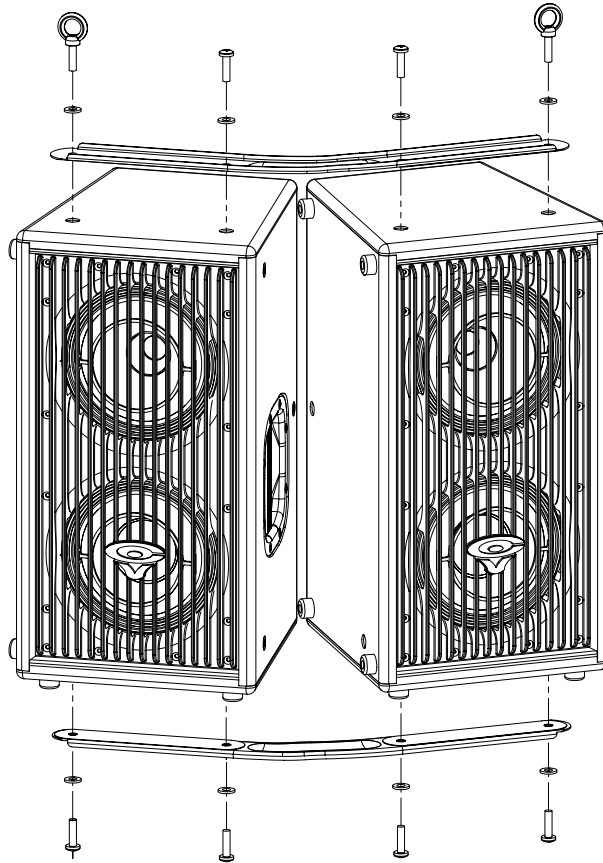

Figure 2
1. Analyze the following illustration. (Figure 2)